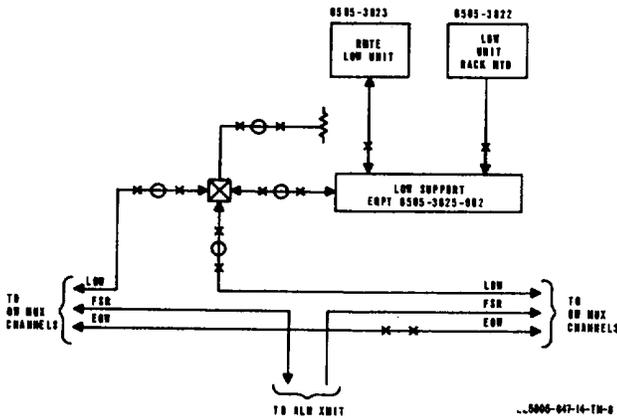

Figure 1-9. Typical, orderwire/intercom LOW station, block diagram
(2) Figure 1-9 shows, in block diagram form, typical link orderwire equipment comprising an LOW facility. Typically, a link orderwire (LOW) facility is employed at adjacent radio stations, to provide a 4-wire voice circuit over the interconnecting radio circuits (links). DTMF signaling is used with a 2-digit station address code. The LOW equipment also provides access of local orderwire circuits, as well as a CO telephone line circuit and the station intercom. When equipped with a junction bridge assembly, party line interconnections between station links are possible.
(3) Local orderwire terminals may be connected as shown in figure 1-9. These terminals are provided at certain facilities to provide a means of local communication. They may also be configured to access distant orderwire terminals over radio links.